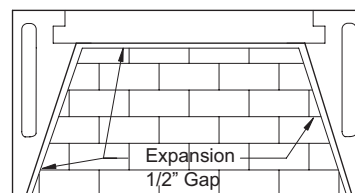

FIGURE 64
3. Start the firebrick at the front edge of the floor of the Isokern firebox, proceeding inward toward the back. Let the floor brick gap approximately 1/2" off the back wall and side walls. This air space allows heat expansion of the firebrick and is to be left empty of mortar. **(Figure 64)**